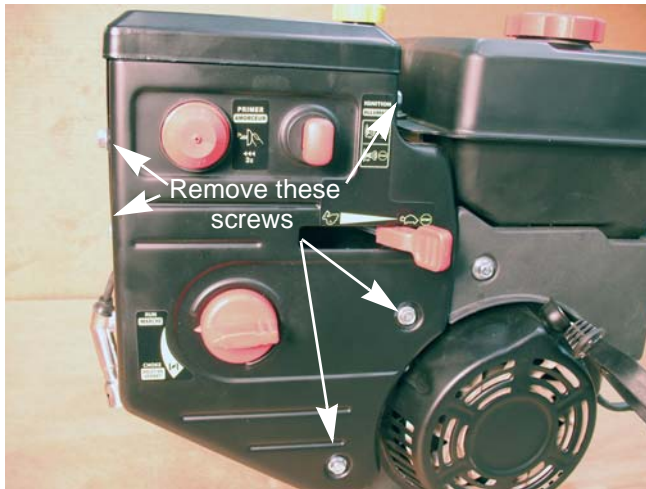

Figure 3.1
2. Remove the engine shroud by taking off the five screws secures it using a 10 mm wrench. See Figure 3.1.